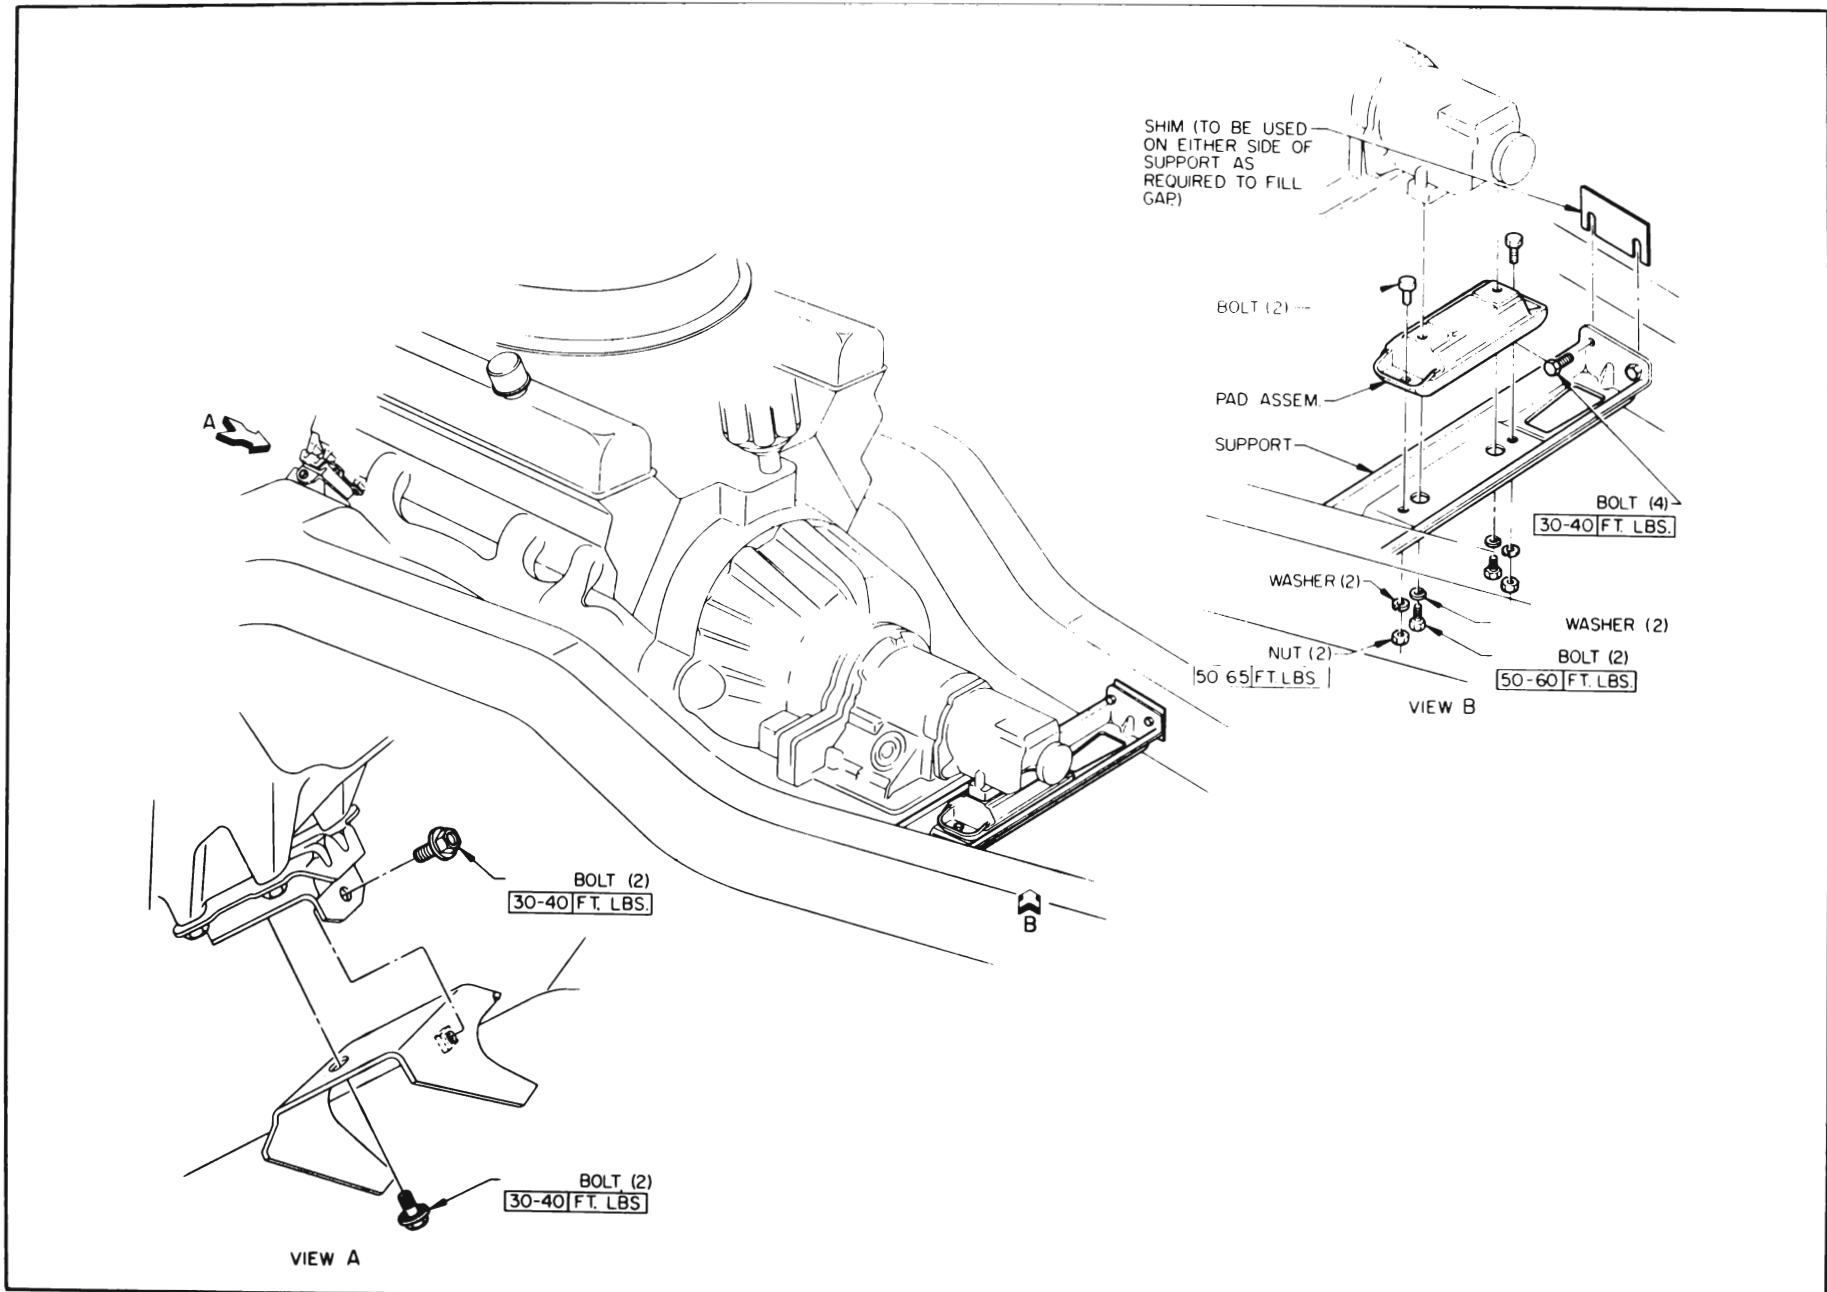

Figure 2-44—Engine and Transmission Mounts
3. Make sure that transmission support to frame shims are in original position and tighten all support to frame rail, support to mount, and mount to rear bearing retainer bolts. See Figure 2-44.